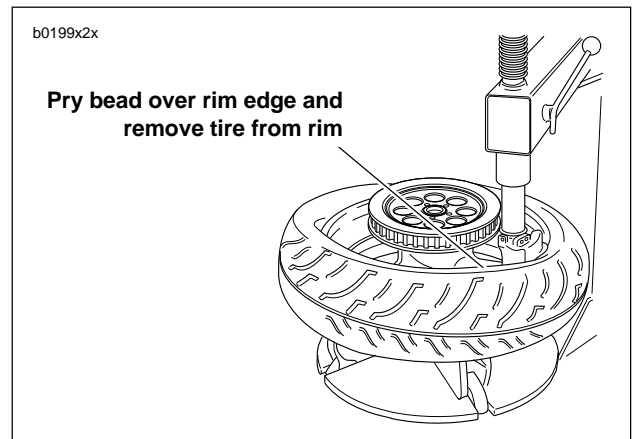

Figure 2-12. Starting Tire Off Rim
5. See Figure 2-12. Push lower bead into rim well on one side and insert tire tool underneath bead from opposite side. Pry bead over rim edge. Remove tire from rim.